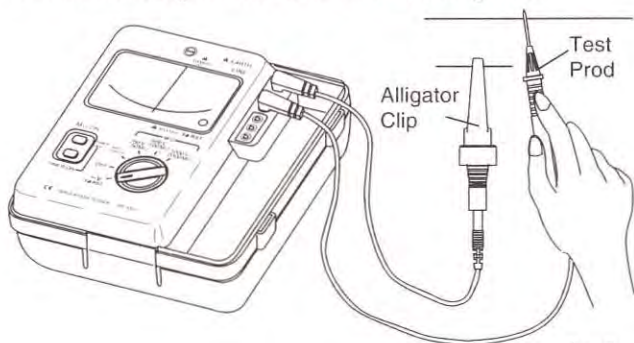

fig. 6
7. Read the voltage on the meter. Refer to the figure 6.